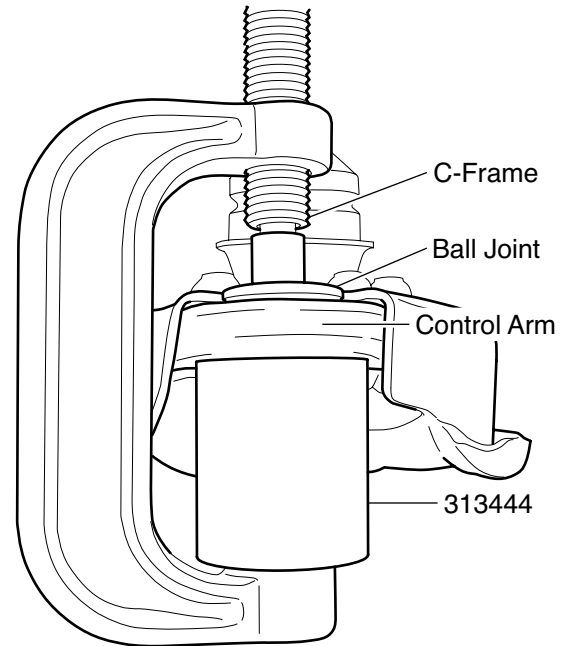

Figure 1. Ball Joint Removal
3. Position the C-Frame as shown in Figure 1.